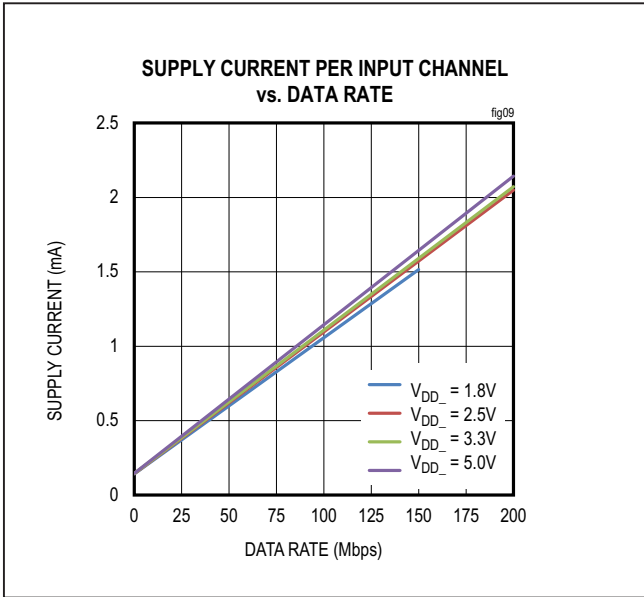
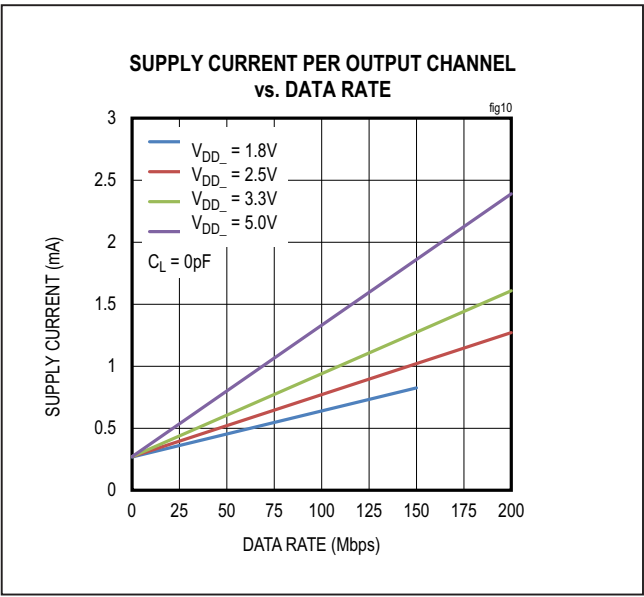

Figure 9. Supply Current Per Input Channel (Estimated)
Figure 10. Supply Current Per Output Channel (Estimated)
The required current for a given supply (VDDA or VDDB) can be estimated by summing the current required for each channel. The supply current for a channel depends on whether the channel is an input or an output, the channel's data rate, and the capacitive or resistive load if it is an output. The typical current for an input or output at any data rate can be estimated from the graphs in Figure 9 and Figure 10. Please note that the data in Figure 9 and Figure 10 are extrapolated from the supply current measurements in a typical operating condition.
The total current for a single channel is the sum of the “no load” current (shown in Figure 9 and Figure 10) which is a function of Voltage and Data Rate, and the “load current,” which depends on the type of load. Current into a capacitive load is a function of the load capacitance, the switching frequency, and the supply voltage.
- Channel 1 is an input channel operating at 2.5V and 20Mbps, consuming 0.33mA, estimated from Figure 9.
- Channel 2 and 3 are input channels operating at 2.5V with DC signal, consuming 0.14mA, estimated from Figure 9.
- Channel 4 is an output channel operating at 2.5V and 100Mbps, consuming 0.77mA, estimated from Figure 10.
- Channel 1 is an output channel operating at 3.3V and 20Mbps, consuming 0.40mA, estimated from Figure 10.
- Channel 2 and 3 are output channels operating at 3.3V with DC signal, consuming 0.27mA, estimated from Figure 10.
- Channel 4 is an input channel operating at 3.3V and 100Mbps, consuming 1.11mA, estimated from Figure 9.